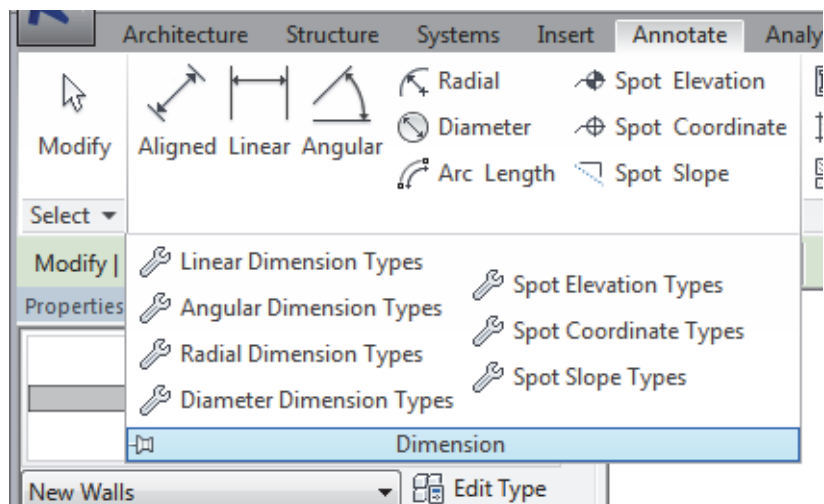

Figure 1–21
1. In the *Annotate* tab>Dimension panel, expand the Dimension panel title (as shown in Figure 1–21), and click  next to the dimension type you want to create.